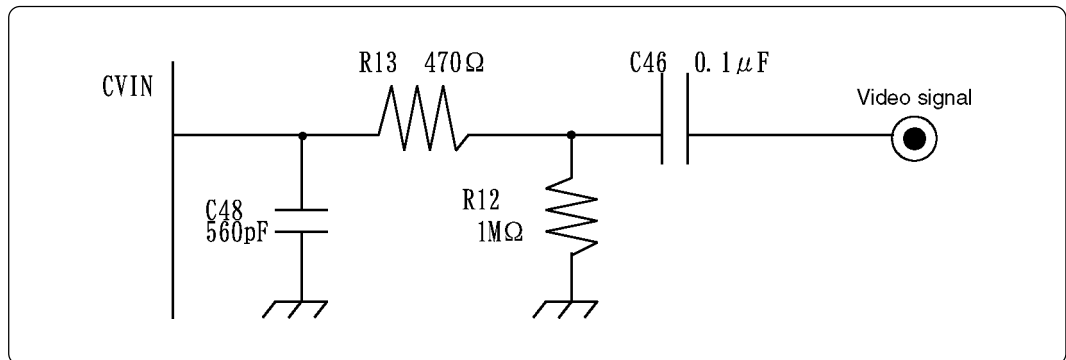

Figure 4.8 CVIN signal circuit
(1) Figure 4.8 shows the part numbers and the constants of the parts of the signal CVIN.